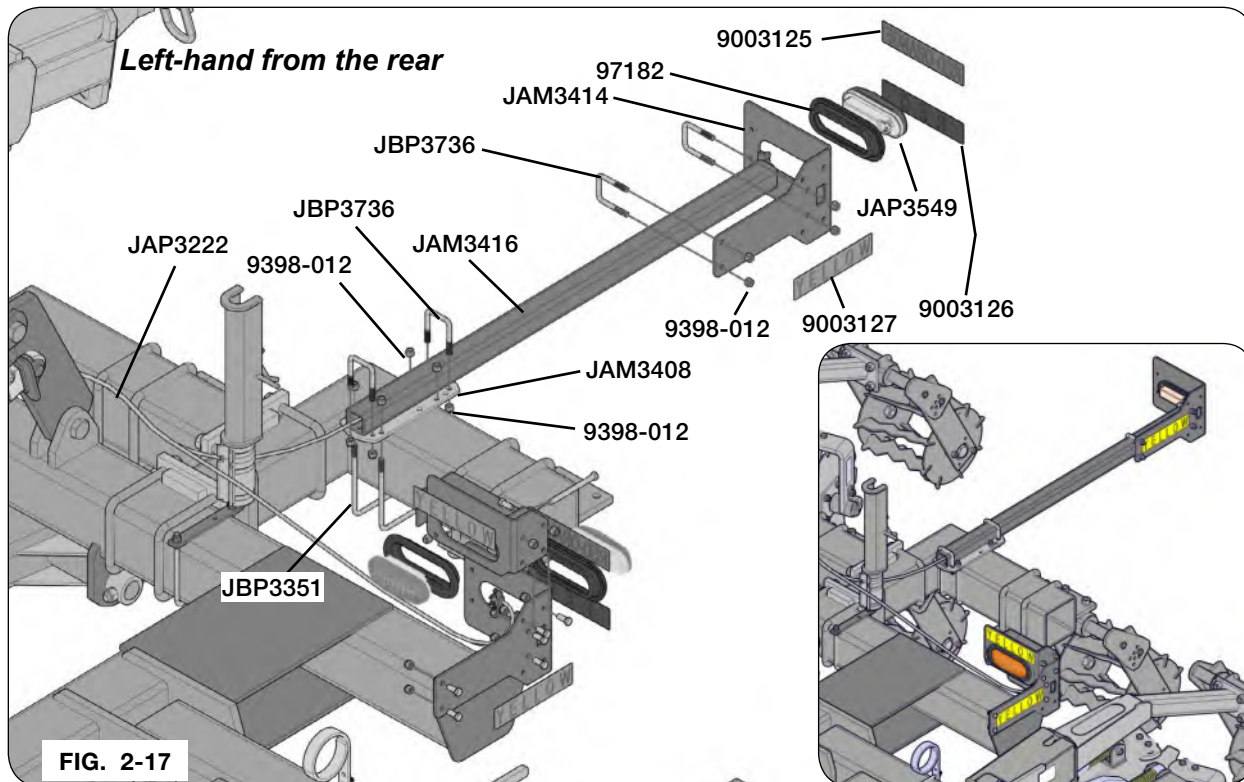

FIG. 2-17
1. Attach the light post mounting plate (JAM3408) with 3/8"-16UNC x 7" x 6 7/16" U-bolts (JBP3351) and 3/8"-16UNC elastic lock nut (9398-012). (FIG. 2-17)
2. Place light bracket tube (JAM3416) on light post mounting plate (JAM3408). Secure tube with 3/8"-16UNC x 2" x 3" U-bolts (JBP3736) and 3/8"-16UNC elastic lock nut (9398-012). (FIG. 2-17)
4. Install oval grommet (97182) into rear light bracket (JAM3414). Insert red oval tail light (JAP3549). Attach rear electrical wiring harness (JAP3222) to red oval tail light (JAP3549). (FIG. 2-17 & FIG. 2-18)
5. Attach rear light bracket (JAM3414) with 3/8"-16UNC x 2" x 3" U-bolts (JBP3736) and 3/8"-16UNC elastic lock nut (9398-012). (FIG. 2-17)
6. Install yellow/amber reflector (9003127) to outside of rear light bracket (JAM3414). (FIG. 2-17)
7. Place orange decal (9003125) above red oval tail light (JAP3549) and red reflector (9003126) below. (FIG. 2-17)